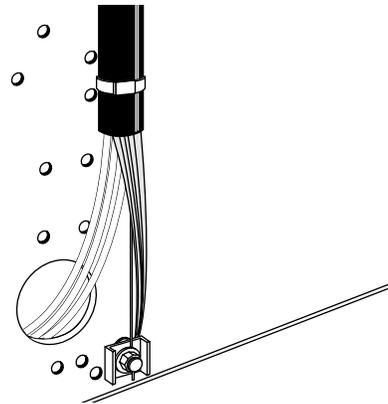

Figure 24
- Secure the cable to the termination hardware according to the instructions provided with the hardware. Make sure that the loose tube cable's sheath, aramid yarn, and central member are all properly anchored to the hardware (Figure 24).